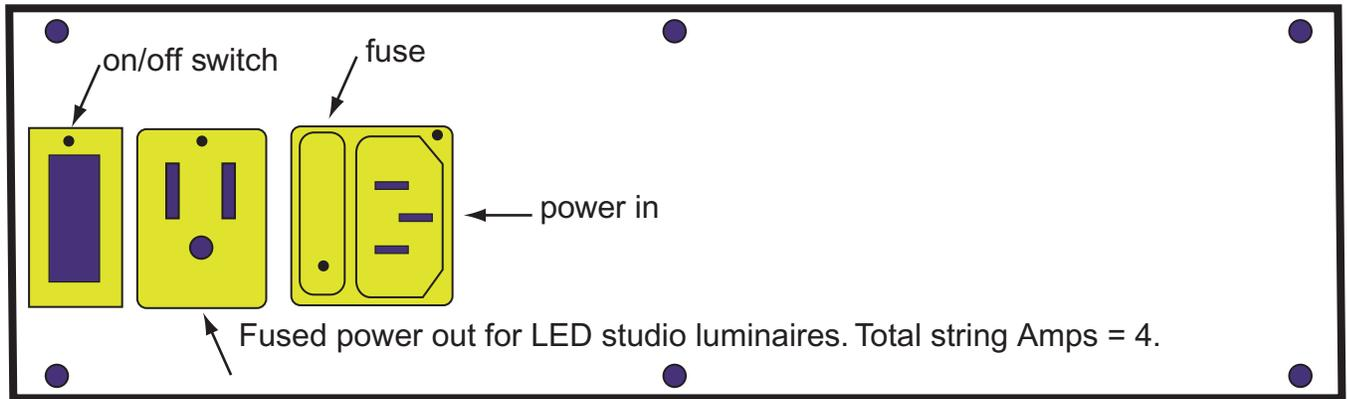

fig 2
The 1SLED-S is made of 16 gage aluminum and powder coated in non-reflective black. Honeycombs are made of aircraft alloy aluminum. Standard luminaires are equipped with detachable 10' long power cords. Each 120 volt cord is equipped with Edison 3 prong connectors. Other voltage models are shipped without plug unless specified. A fused power in and out receptacle is supplied for 120 volt models. Adjacent fixtures may be powered with this connector so long as the load does not exceed 4 amps. (fig. 2) Fuse is fast acting type 217, 10 amp, 250 V. The switch controls the power to the one fixture. Power is indicated when the switch is lit.
The control panel is shown in fig. 2. This panel is the same in appearance to the 0-10 volt dimming model. A label containing the serial number indicating voltage and dimming capacity can be found on this plate.
7. Control panel including switch and power connections. See fig. 2.
bench test each fixture. Plug the the power cord in one luminaire and turn the switch on the control panel (fig 2). The switch should be lighted if the unit has power. The lamps should start. Next, the hanging means should be mounted on the yoke (fig 5) with a 1/2" bolt supplied with the "C" clamp and or stem. If vertical mounting is desired, the hanger or stem should be attached on one end of the yoke brace. If daisy chain power is desired, up to a total string of 4 amps, use of the "power out" receptacle. in figure (2). If the luminaires are bench tested it is advisable to set the unit on the bench top as shown in figure 4 to allow ventilation though the body of the fixture. Extended operation with the ventilation slots blocked can cause over heating.